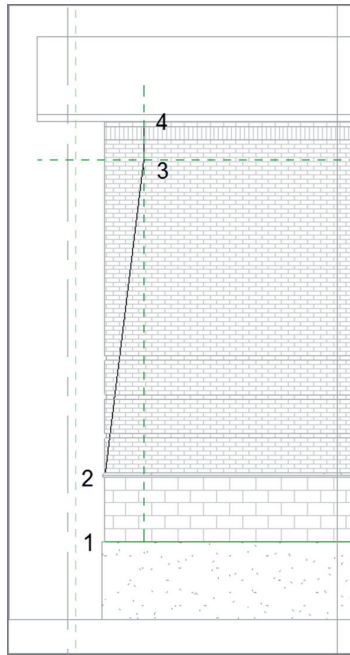

FIGURE BC1.43: Drawing the face of the shape
4. Verify that Draw Line is the draw option. Draw a line from point 1 to point 2, as shown in Figure BC1.43. (This line is from the bottom of the CMU wall to the bottom of the concrete ledge.)
5. Draw a line from point 2 to point 3 (see Figure BC1.43).
6. Draw a line from point 3 to point 4 (see Figure BC1.43).